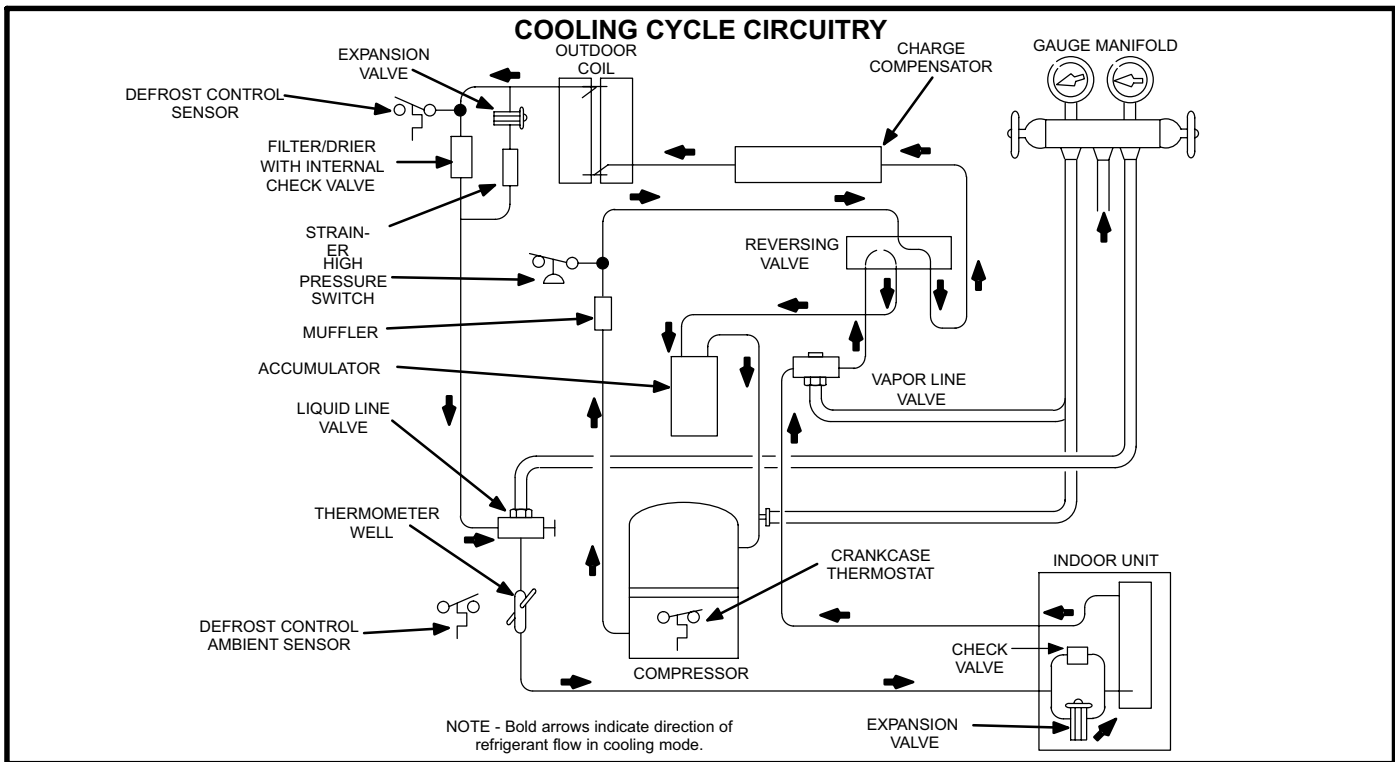

FIGURE 16
Conventional heat pump circuitry is used. A check valve and expansion valve are used in parallel in the liquid line. The check valve is closed when the unit is in heating mode to force refrigerant through the expansion valve. The check valve is open when the unit is in cooling mode and refrigerant is forced through the drier. Separate discharge and suction service ports are provided at the compressor for connection of gauge manifold during charging procedure. Figures 16 and 18 show HP21 gauge connections.
- 1- Attach gauge manifold as shown in figure 16. Connect vacuum pump (with vacuum gauge) to center port of gauge manifold. With both manifold service valves open, start pump and evacuate indoor coil and refrigerant lines.
- 1- Connect gauge manifold as shown in figure 16. Connect an upright R-22 drum to center port of gauge manifold.